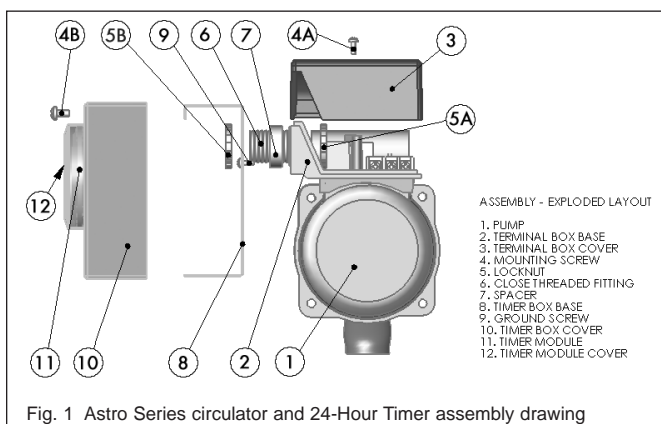
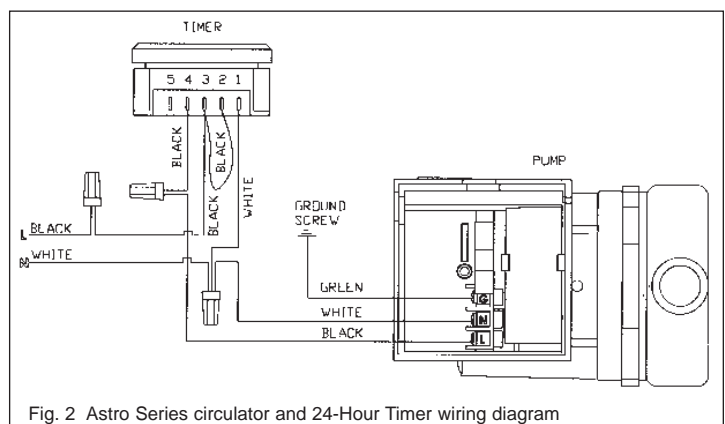

Fig. 1 Astro Series circulator and 24-Hour Timer assembly drawing
Fig. 2 Astro Series circulator and 24-Hour Timer wiring diagram
**Note:** Numerical component designations included in Steps 2 through 10 refer to circulator and timer components shown in Fig. 1.
2. Unfasten the mounting screw (4A) and remove the terminal box cover (3).
4. Unfasten the mounting screw (4B) on the timer box cover (10) and detach it from the base (8).
5. Remove the lock nut (5A) from the threaded fitting (6) on the timer box base (8).
6. Attach the timer base (8) to the circulator terminal box (2) by inserting the threaded fitting (6) through the opening on the side of the terminal box base.
7. Fasten the lock nut (5A) on the end of the threaded fitting (6) to securely attach the timer base (8) to the terminal box (2).
8. Connect terminal box lead wires (black, white and green) to the timer unit and the power supply (as shown in Fig. 2).